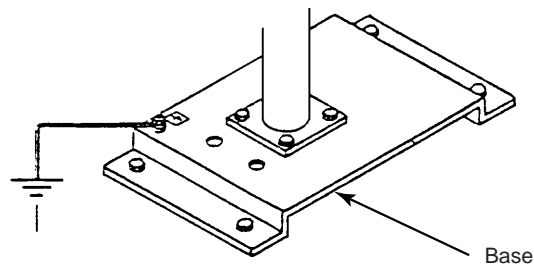

Figure 2.4 Grounding for Base
- (3) Make a ground connection to the base (JIS Class 3 grounding, grounding resistance is 100 Ω or less, see Figure 2.4)